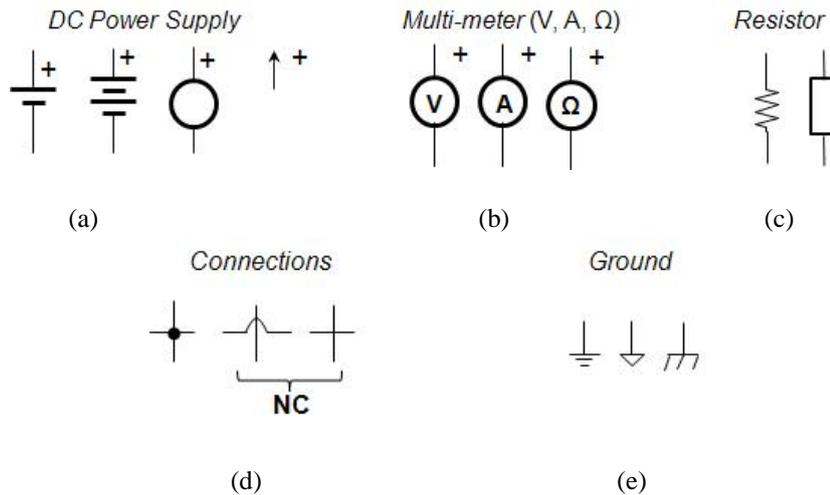

Figure 6. Basic symbols of the elements shown in this document.
Fig. 6 shows basic symbology and common standard conventions used in wire connectivity. In general, each element is a *dipole* and its terminals are connected to other dipoles. The positive pole of instruments is represented by “+” (Fig. 6a and 6b), and the resistor symbol is depicted in Fig. 6c. More than three connections between wires and/or terminals are indicated by a “point”, whereas a “bridge” (or the omission of points) means a crossing of unconnected wires (NC). Finally, the GROUND terminal (Fig. 6e) is a common reference used in electrical variables.